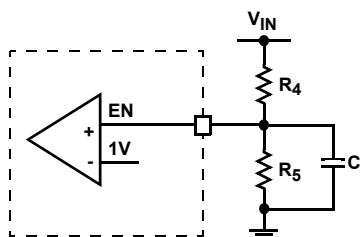

FIGURE 37. EXTERNAL RESISTOR DIVIDER
When the input voltage is below the undervoltage lockout (UVLO) threshold, the regulator is disabled. To adjust the voltage level of power on and UVLO, use a resistive divider across EN. The input voltage programming resistor  $R_4$  will depend on the bottom resistor  $R_5$ , as referred to in Figure 37. The value of  $R_5$  is typically between 10kΩ and 100kΩ.
The enable (EN) input allows the user to control the turning on or off the regulator for purposes such as power-up sequencing. When the regulator is enabled, there is typically a 600μs delay for waking up the bandgap reference and then the soft-start-up begins. It is recommended that the EN voltage should be kept logic low (less than 400mV), until  $V_{IN}$  reaches 2.5V. Refer to Figures 37 and 38 for suggested circuit implementation with  $V_{IN}$  slew rate.